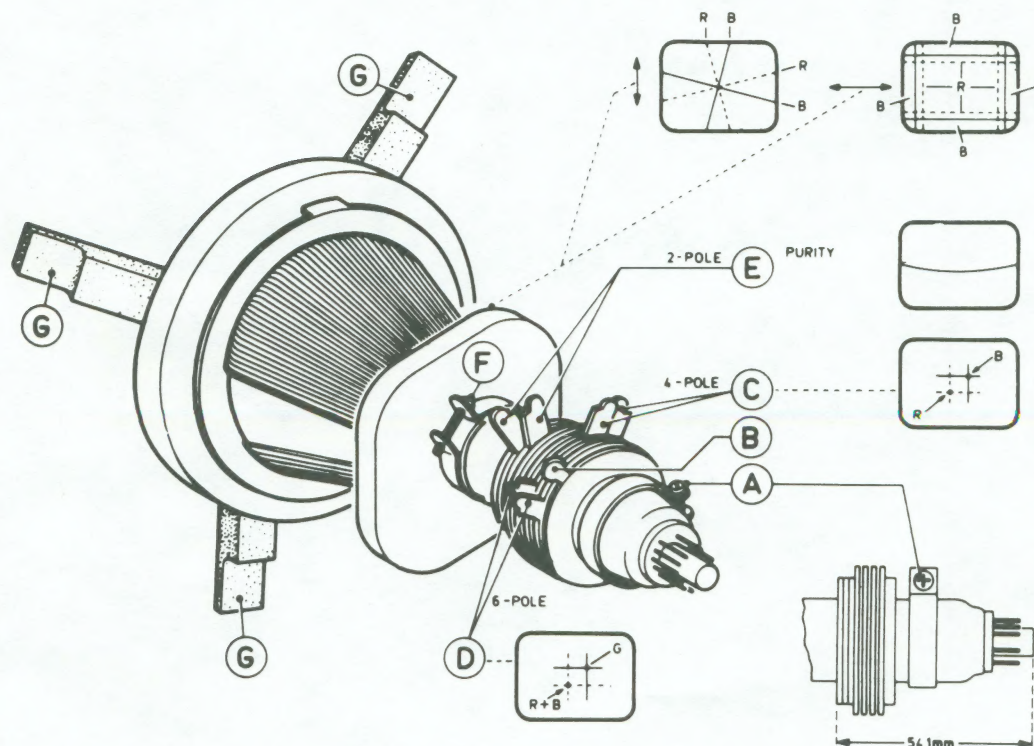

Fig. 1
Color Purity adjustment (Refer to Figure 1)
2. Remove the rubber wedges (G) and slide the yoke forward until it rests firmly against the bell of the CRT.
4. Place the multi-pole Purity and Convergence Assembly in the position shown in Figure 1.
5. Tighten screw (A) and turn securing ring (B) counterclockwise. Position the unit so that it faces in an East/West direction and degauss the instrument.
9. Adjust the Two-pole purity rings (E) to center the red vertical and horizontal lines.
11. Turn on the green and blue guns by reconnecting R728 and R735. If a uniformly white raster does not appear, minor adjustments may be made by adjusting the purity rings (E).